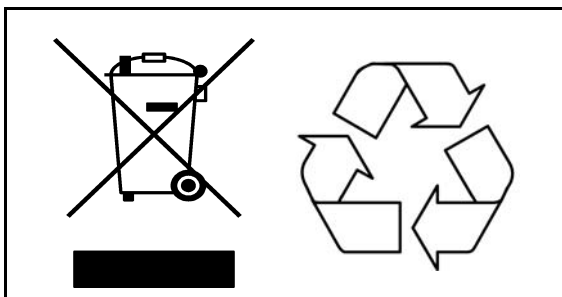

Fig. 3
- For recycling and disposal of the batteries, the rules according to the WEEE directive (Waste of Electronic and Electrical Components) as well as local laws and regulations must be followed. If not they may explode, leak and cause personal injury. When returning batteries, insulate their terminals with adhesive tape. Otherwise, the residual electricity in used batteries may cause fire or explosion. Fig. 3 below shows the symbols for disposal and recycling.